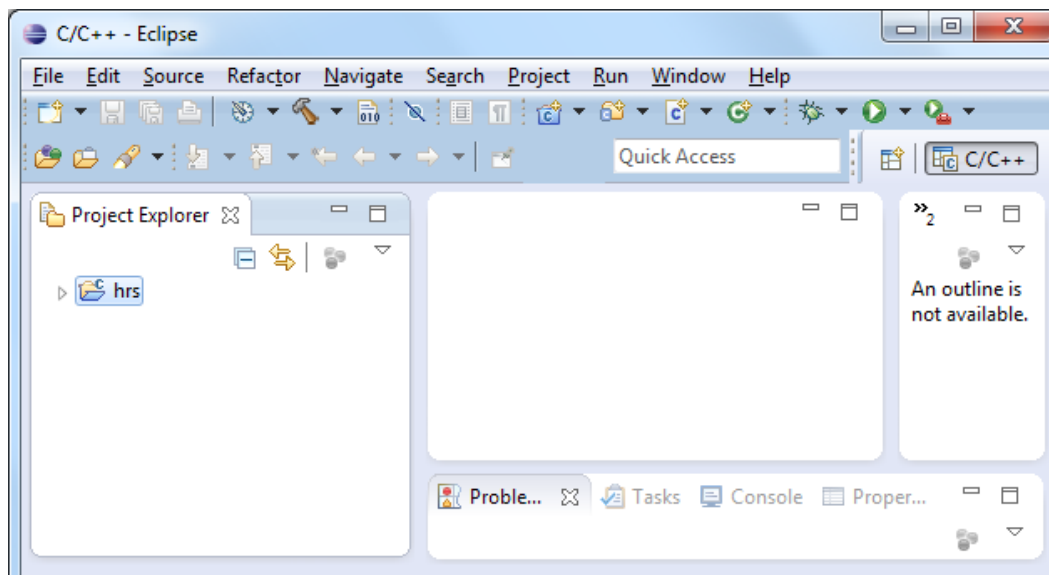

Figure 15: Creating project in Eclipse
5. Click **Finish**. The project should now appear on the Project Explorer tab on the left (Figure 15).